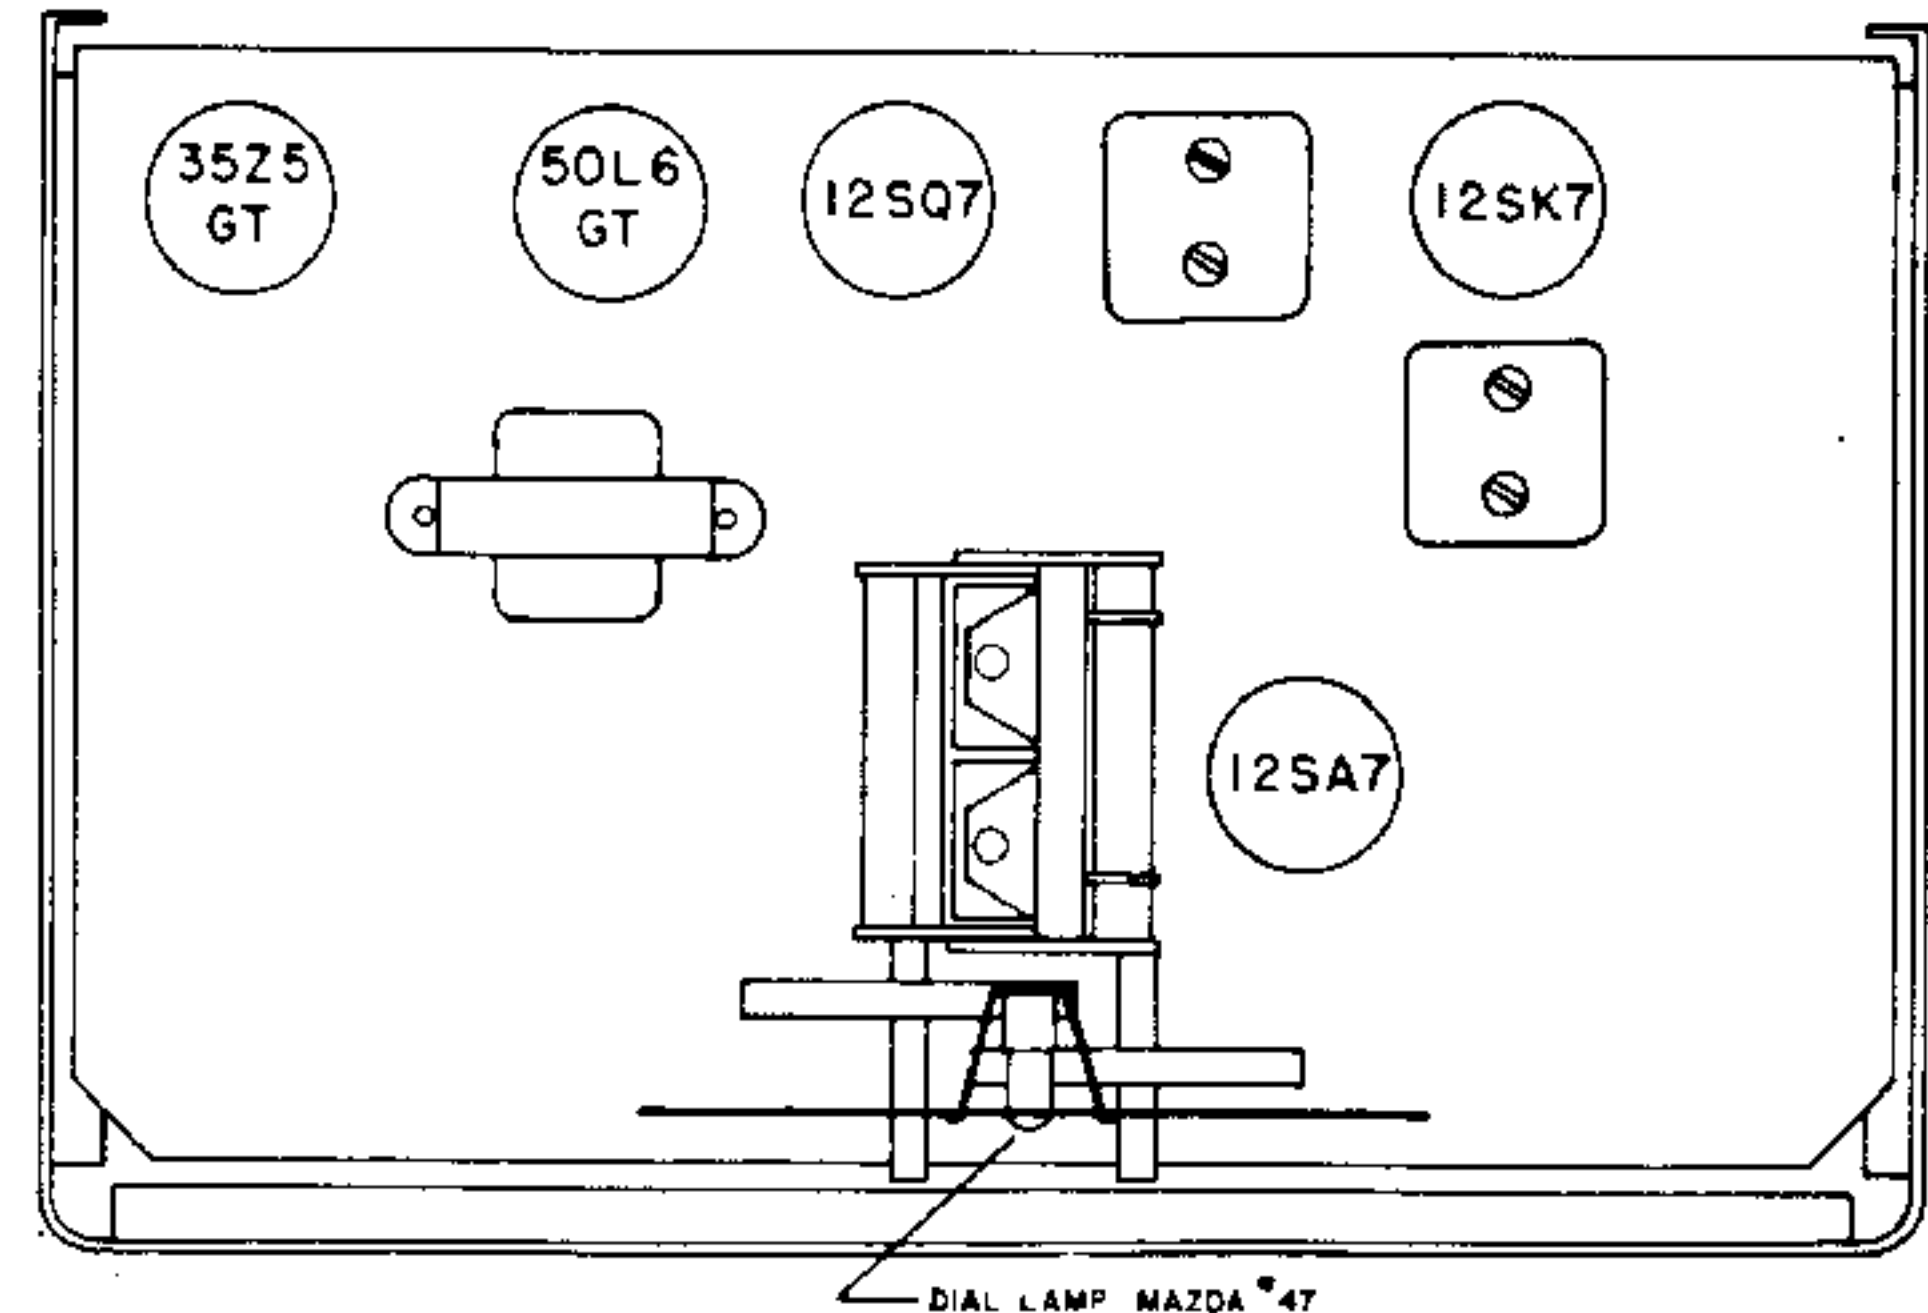

FIG. 5. Top view, location of tubes and dial lamp.
**TUBE REPLACEMENT** - The tube types and their relative position in the receiver are shown in the illustration, Fig. 5. When installing a replacement tube, insert the center guide pin into the center hole of the tube socket; rotate the tube until the key on the guide pin drops into the notch in the socket hole; and push down until the base of the tube rests firmly on the socket.
**DIAL LAMP REPLACEMENT** - Refer to Fig. 5 for the location of the dial lamp. To replace a defective lamp, reach in through the rear of the cabinet and unclip the dial lamp socket by compressing the side springs. The socket and defective lamp may then be brought out into the open for service.